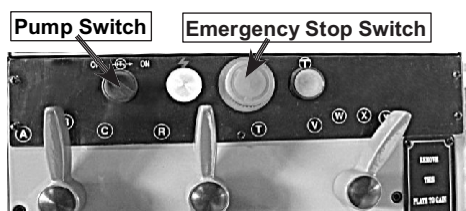

Figure 14. Control Panel.
4. Turn the pump switch to the OFF position, fill the cutting fluid reservoir, and point the fluid nozzle into the chip pan. (Figure 14)